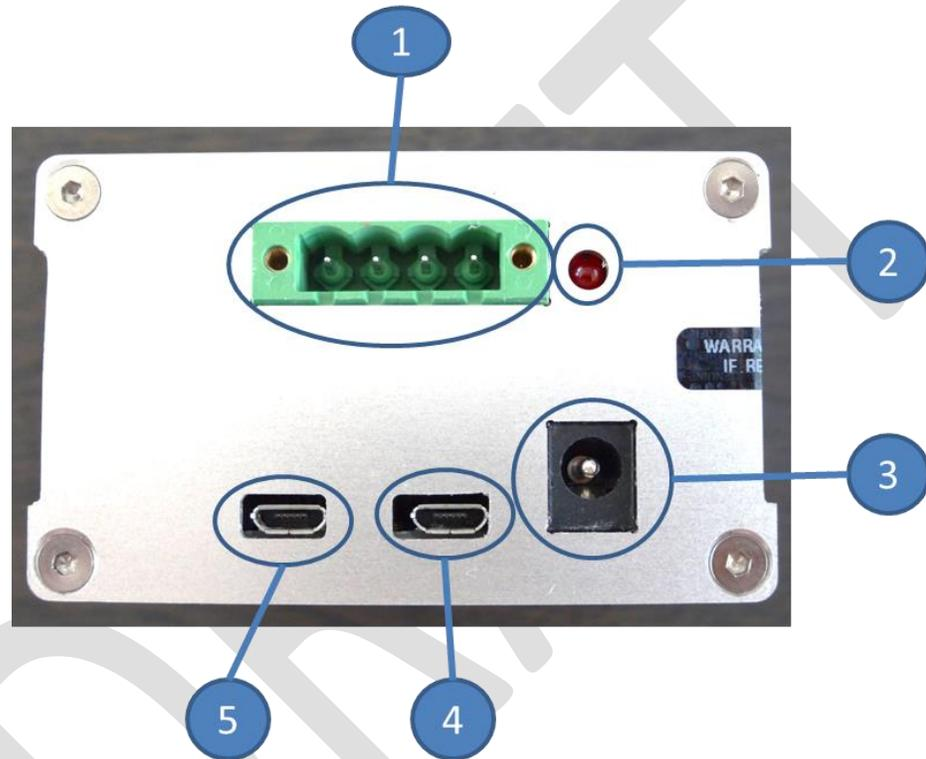

Figure 3: SMRT Probe 4000 connections and indicators
All connections to and from the SMRT Probe 4000 are made at the back panel of the device. Figure 3 provides an overview of the connectors and indicators, and their functionality is explained in the following paragraphs.
1. Four-pin green connector (1 in Figure 3): Use the green connector to connect SMRT Probe to the power supply or system that needs to be monitored. The green connector pin assignment is detailed below.
2. Power LED (2 in Figure 3): The power LED indicates that the SMRT Probe is active.
3. Supply connector (3 in Figure 3): The optional supply connector can be used to supply SMRT Probe from the mains using an appropriate supply adapter. SMRT Probe 4000 takes its power either from the USB bus or from its supply connector.
4. Micro USB connector (4 in Figure 3): Data and Control Port. Use this connector to hook up SMRT Probe 4000 to its controlling host using an appropriate USB cable.
5. Micro USB connector (5 in Figure 3): Programming Port. This connector is reserved for system programming and in-field application support, and is to be left unconnected during normal use of SMRT Probe 4000.